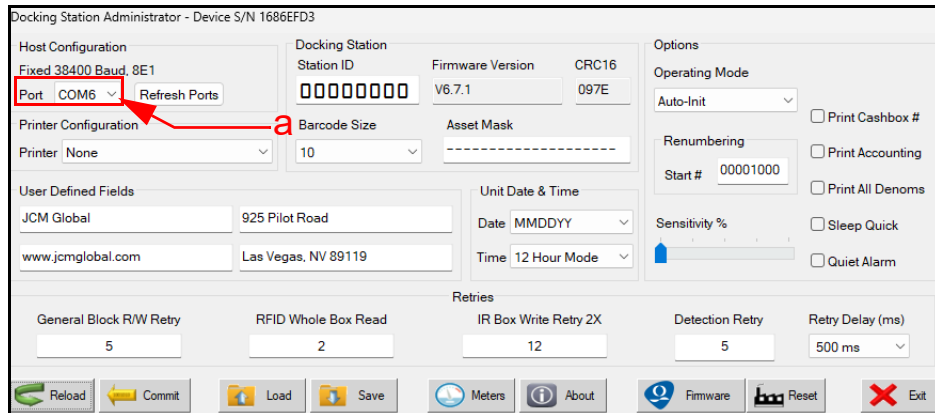

Figure 3 DSA Main Screen
- A USB-to-Serial Converter Kit (JCM P/N 302-100004R) can be used to connect the Docking Station to the PC via a USB connection. When using the USB-to-Serial Converter, launch the PC Device Manager and check the Ports (COM & LPT) section to verify which COM Port is assigned to the device. This setting may be used to configure the COM Port if the Docking Station does not automatically identify the connected COM Port (refer to Figure 3 a on page 4).
2. From the Docking Station Administrator (DSA) Main Screen (Figure 3), click the Host Configuration drop-down menu (Figure 3 a), then select the correct COM Port for the DSA Application to communicate over.
The DSA Main Screen (refer to Figure 3 on page 4) features nine (9) interactive screen buttons, which are described in Table 1.